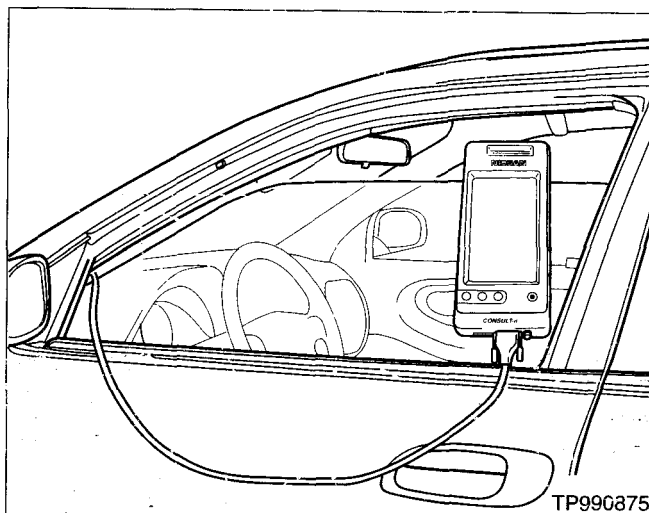

Figure 19
29. Roll down the driver's window part way, exit the vehicle, close the door and hang the CONSULT II unit on the outside of the window (see Figure 19).